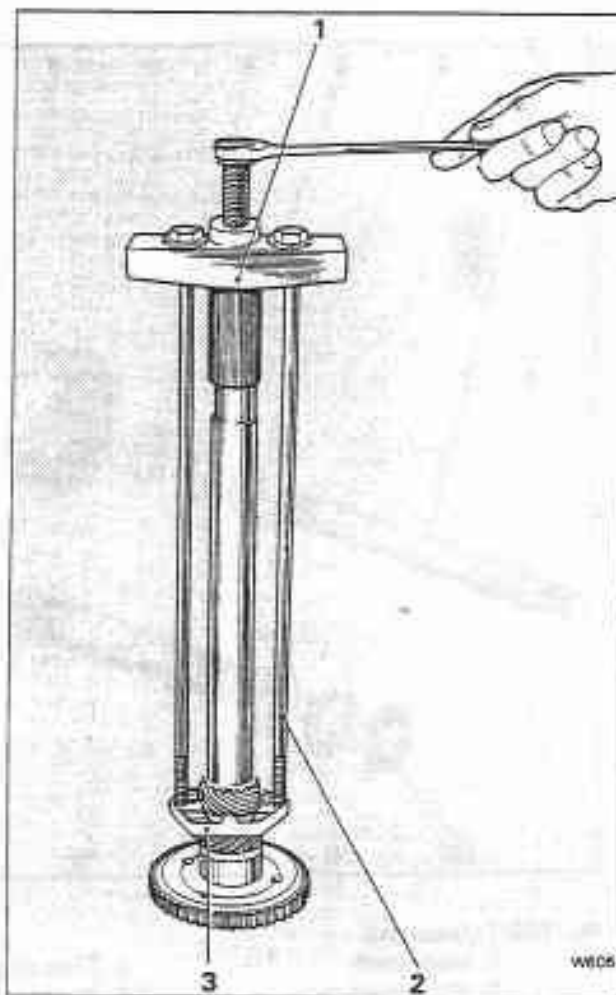

Fig. T20-9 Removing a steel speedometer drive gear
2. If a **steel gear** is fitted to the shaft, install the speedometer drive gear removal tools J-21427 and J-9578 (see fig. T20-9).